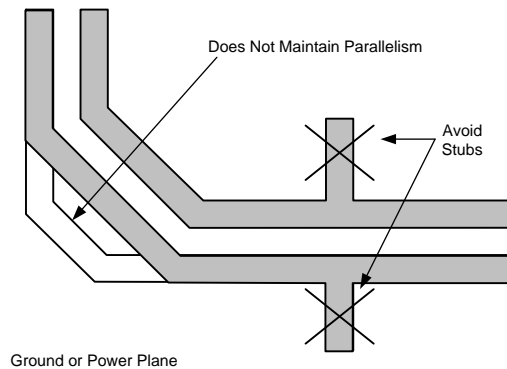
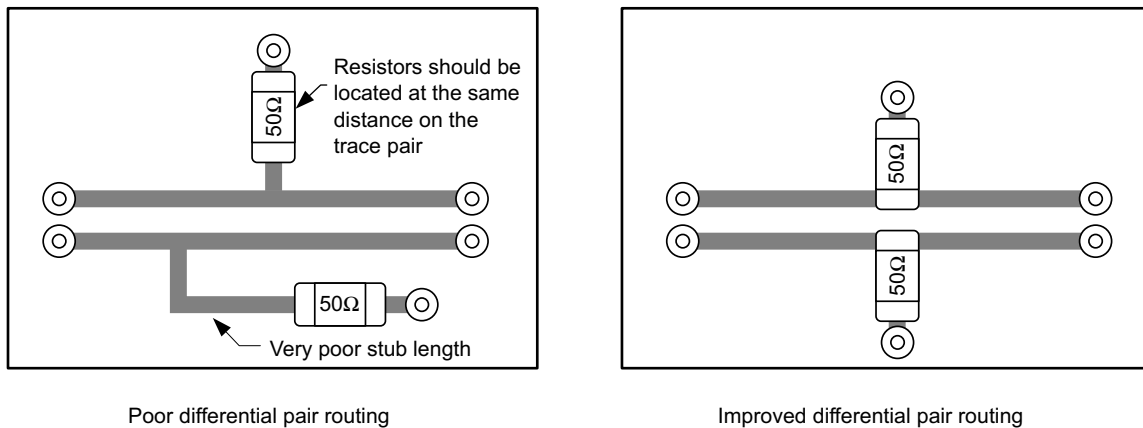

Figure 15. Differential Signal Pair
Figure 16. Examples of Differential Pair Layout
- For each differential pair, the traces within the pair should be run parallel to each other and be matched in length. Matched lengths minimize delay differences and avoid an increase in common-mode noise and increased EMI (see Figure 15).
- Avoid stubs in differential signal pairs where possible (see Figure 15 and Figure 16). Where termination or bias resistors are needed, one terminal should be located directly on the trace. Both resistors should be located at the same distance from the source and load.